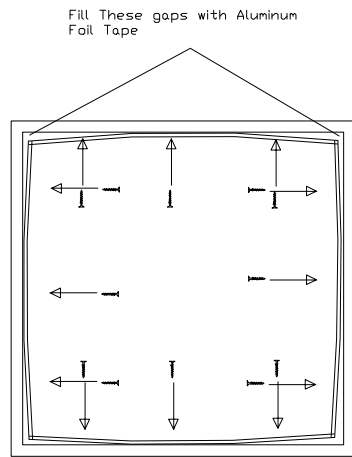

Fig. 8
5. Lower down until SkyLume is flush with the curb. Screw in 3 screws into each panel into the curb. After securing SkyLume, remove lifting bracket assembly. (Fig. 8)
6. Apply metal tape (not supplied) and seal the gap in-between curb and Skylight panel. (Fig.8)